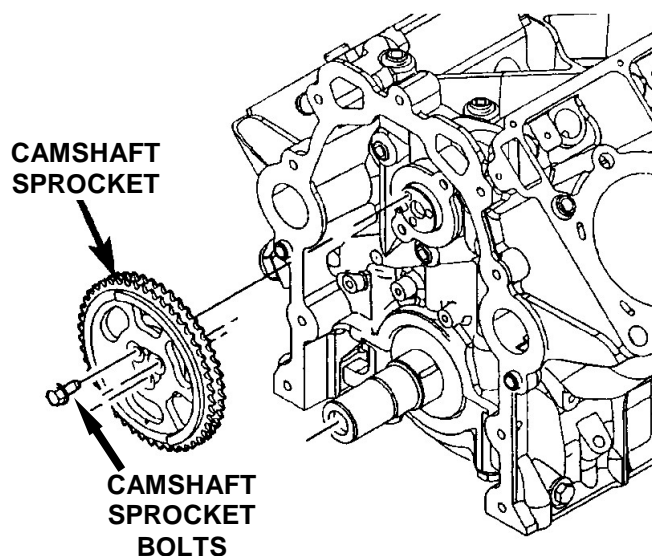

Figure 15
36. Inspect the three (3) camshaft sprocket bolts (Figure 15).
40. Snug the three (3) camshaft sprocket bolts (Figure 15) to 50 in-lbs (6 N·m) to ensure hard contact of the joint faces.